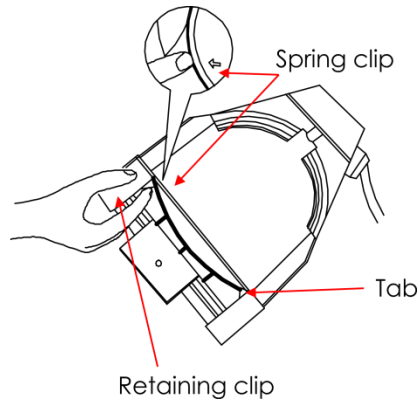

Fig. 09
- 04) Press the spring clip to release the lens (Fig. 09).
- 01) Place the fixture with the front facing you. Tilt the fixture slightly (Fig. 09).